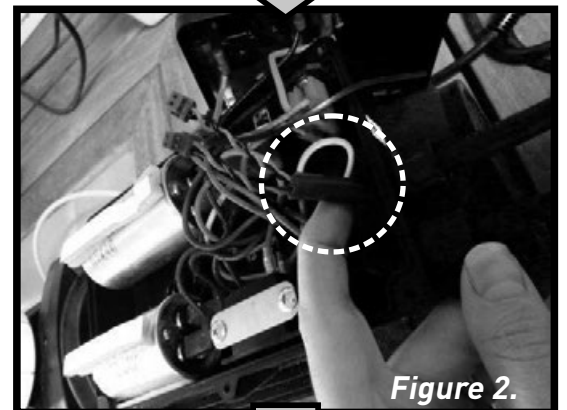

Figure 2.
5. Feed the control cable through the gland nut and then through the gland as shown in **Figure 2**.